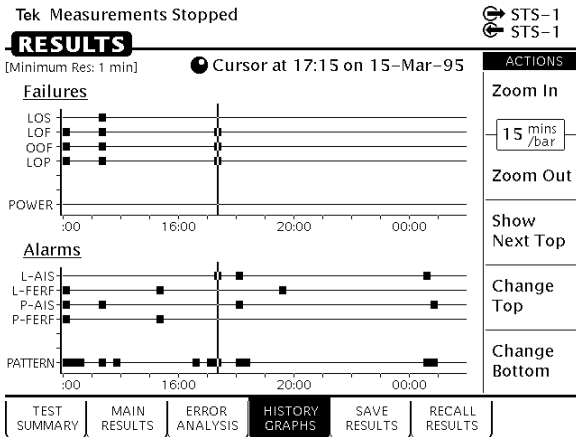

Figure 3-60: On/Off Graphs Showing Failures and Alarms
**On/Off Graphs.** On/off graphs indicate whether alarms and failures were on or off (see Figure 3-60). There are only two types of on/off graphs, as shown in Table 3-33. One type displays alarms and the other type displays failures.